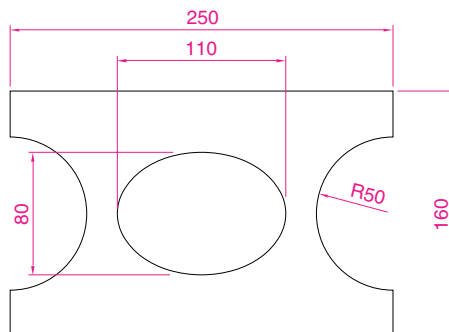

Fig. 13.47 Exercise 7
7. Working to the dimensions given in Fig. 13.47, construct an extrusion of the plate to a height of 5 units.